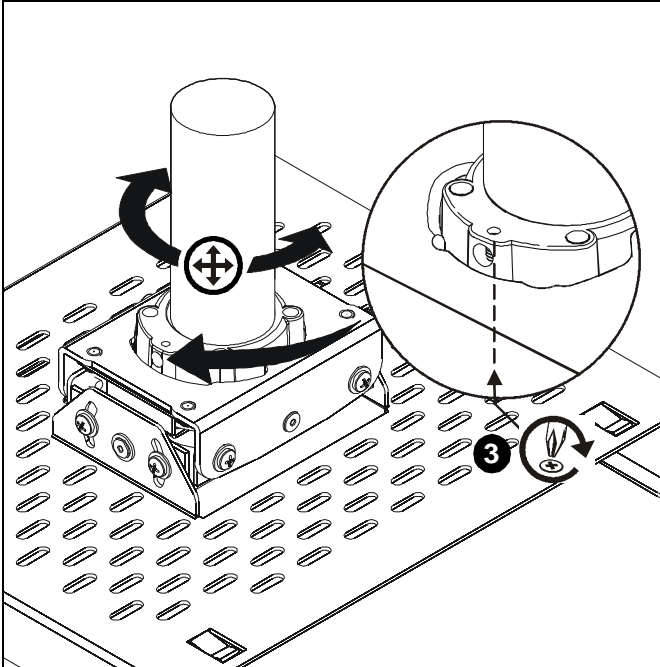

Figure 4
2. Tighten set screw. (See Figure 4)
3. Tighten security screw. (See Figure 4)